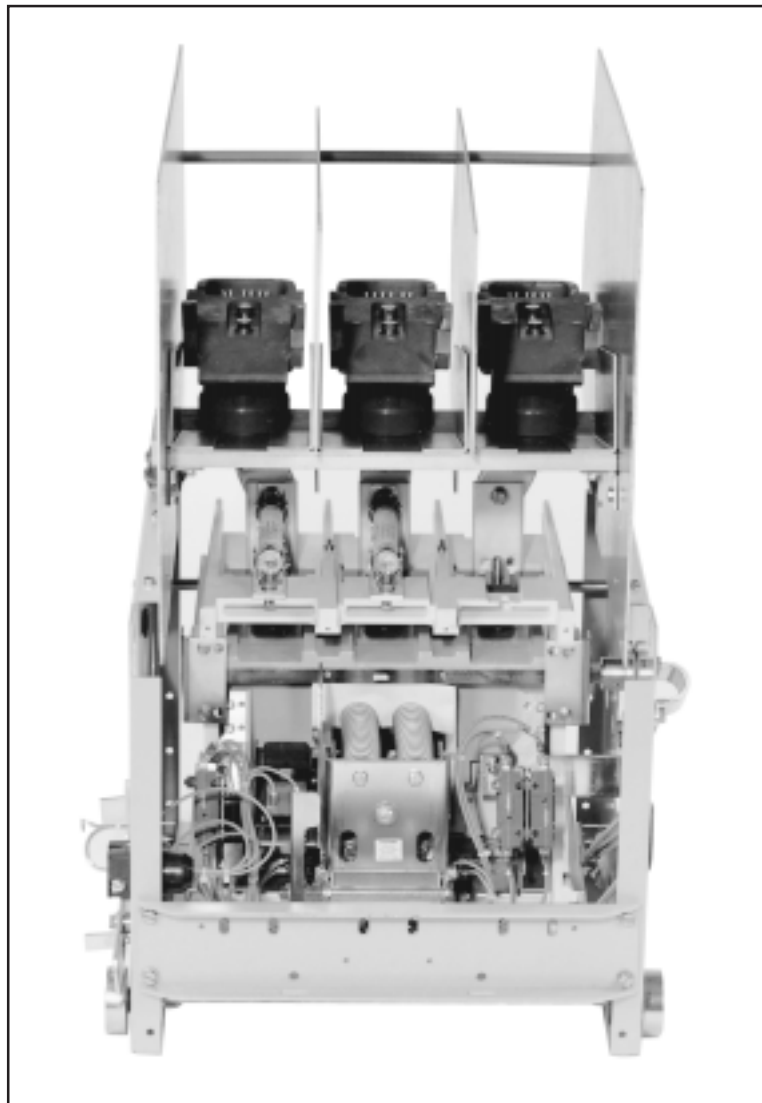

Fig. 5 Mechanical Latch Installed, 720A Contactor
Remove the latch spring. Block the single or bottom (if there are two) solenoid open temporarily with a pencil or other shim on top of its magnet frame and underneath its armature. Hold the contactor in the fully sealed-closed position electrically, and manually close/open the latch using the trip arm. The latch should move easily. If it does not move freely, check the roller end of the latch arm to see if the latch arm rubs against the armature. To eliminate rubbing, loosen the two latch mounting bolts (B) (Figure 4 or Figure 5) on the right side and move the right latch bearing plate rearward until the latch arm clears the armature. Retighten the mounting bolts. Re-check for free motion.
Next, hold the contactor in the fully sealed-closed position, operate the latch with the trip arm, then release the trip arm abruptly. The latch should fall freely into the open position. If it doesn't, the "free-play" clearance is insufficient. To increase the clearance on a 360A contactor, loosen all five latch mounting bolts (A) and (B) (Figure 4) and tap both the left and right bearing plates rearward a few thousandths of an inch. Re-tighten the five bolts and recheck both the free-fall release and the freedom from rubbing between the latch arm and the armature. To increase the clearance on a 720A contactor, loosen all four latch mounting bolts (A) and (B) (Figure 5) and tap both bearing plates rearward as explained above. Re-tighten and recheck as explained above.